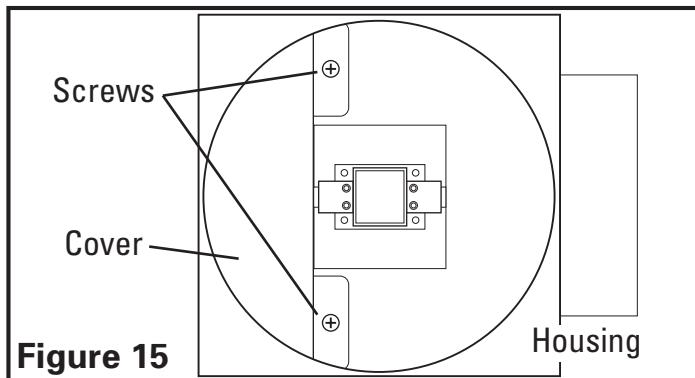

Figure 15
1. Remove the screws inside the housing securing the electrical cover in place (**Figure 15**).